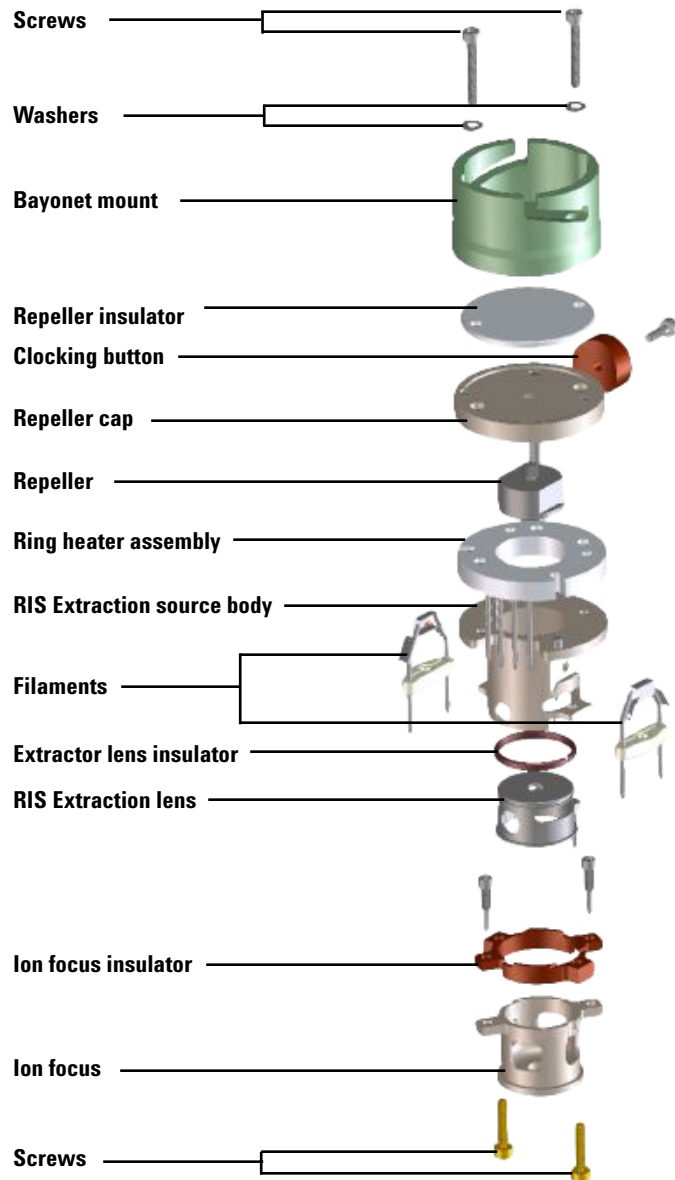

Figure 29 Disassembling the EI ion source
- 3** Separate the ion focus and insulator assembly from the source body. (See Figure 29.)
- 8** Disassemble the repeller assembly by separating the repeller, the repeller cap, ring heater and sensor assembly. (See Figure 29.)
- 9** Remove the clocking button from the repeller cap by removing the screw that holds it in place. (See Figure 29.)
- 5 Attach the extractor lens insulator to the extractor lens, and slide them onto the other end of the source body (Figure 29).